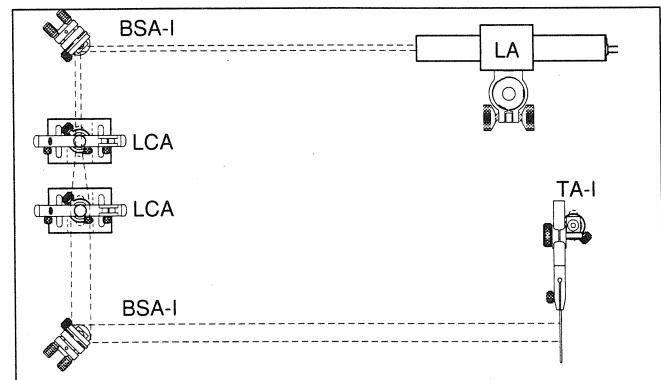

Figure 3-2. Schematic view of Galilean beam expander experiment.
2. Mount a beam steering assembly (BSA-I) approximately 4 inches in from the far corner of the breadboard (Fig. 3-2). Adjust the height of the mirror mount until the beam intersects the center of the mirror. Then rotate the post in the post holder until from the laser beam is parallel to the left edge and the surface of the optical breadboard.
3. Place a second beam steering assembly (BSA-I) in line with the laser beam at the lower left corner of the optical breadboard, (Fig. 3-2). Adjust the mirror mount until the laser beam is parallel to the front edge and the surface of the optical breadboard.
1. Replace the negative lens (LN1) with a short focal length positive lens (25.4 mm.) (LP3) and use the same adjustments to center the beams in the lenses and the mirror of the second BSA. Adjust the distance between the two lenses to be the sum of their focal lengths (Fig. 3-2).